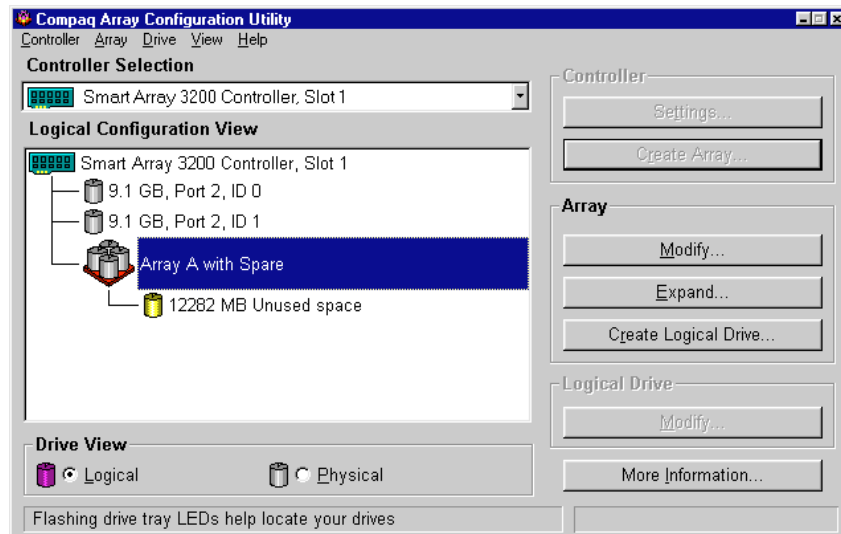

Figure 5-6. Example Array - Logical Configuration View with one Array
- Click the Done button to return to the Main Configuration screen. The Logical Configuration View area should look similar to Figure 5-6.